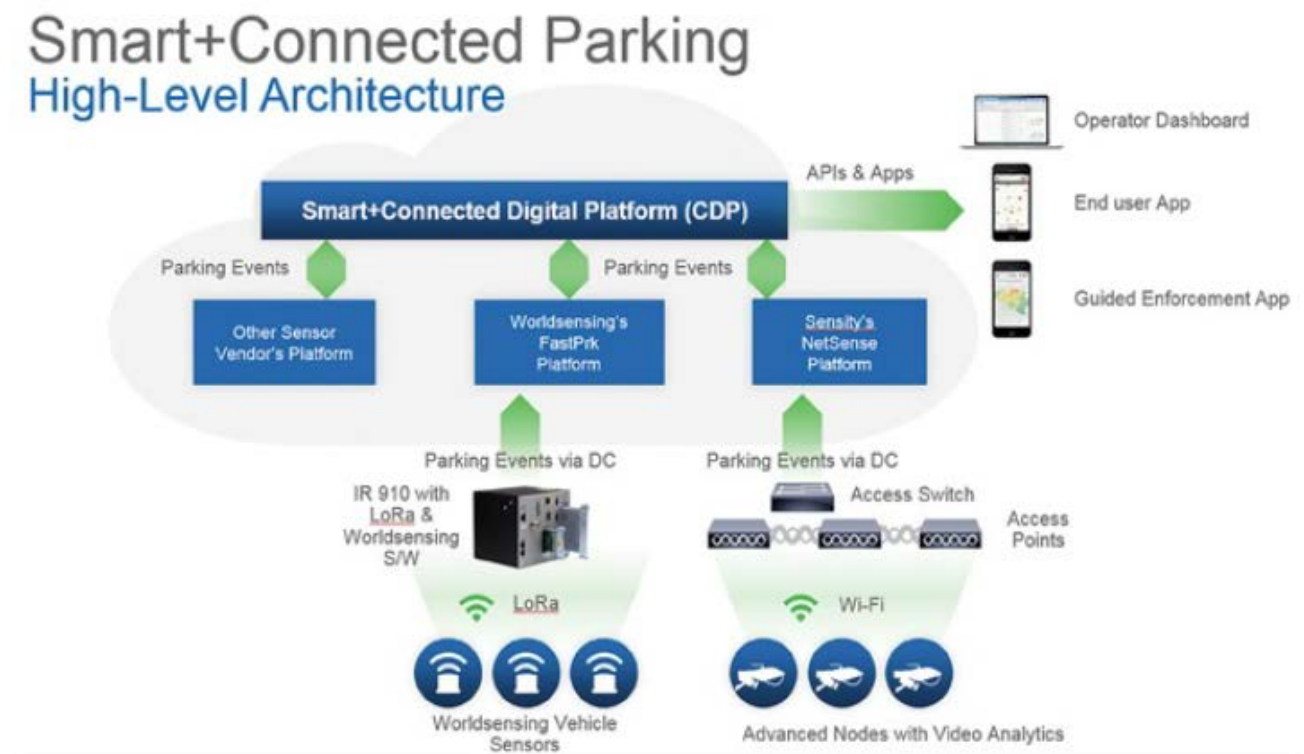

Figure 5.18 Connected Parking Architecture
- In larger (for example, outdoor) environments, a longer-range Low Power Wide Area (LPWA) protocol is common, as shown in Figure 5.18.